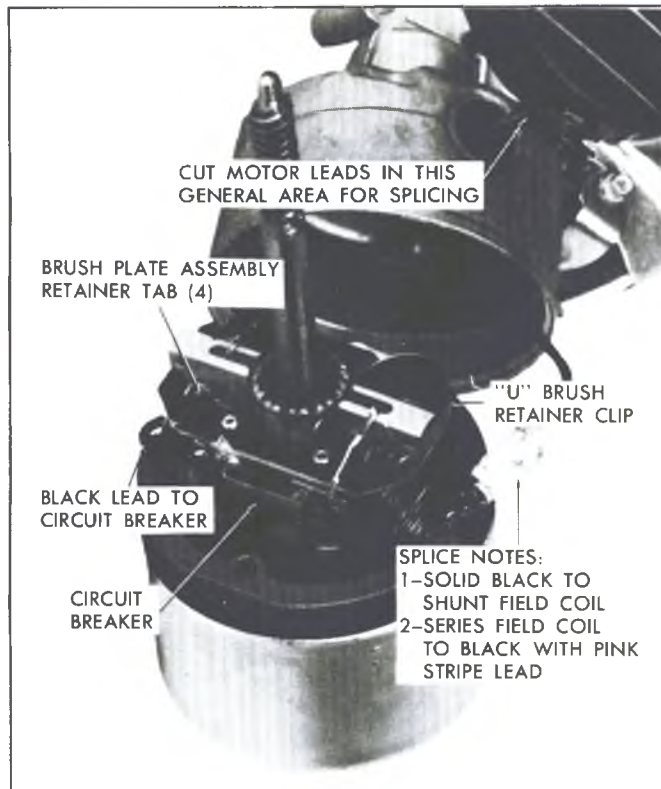
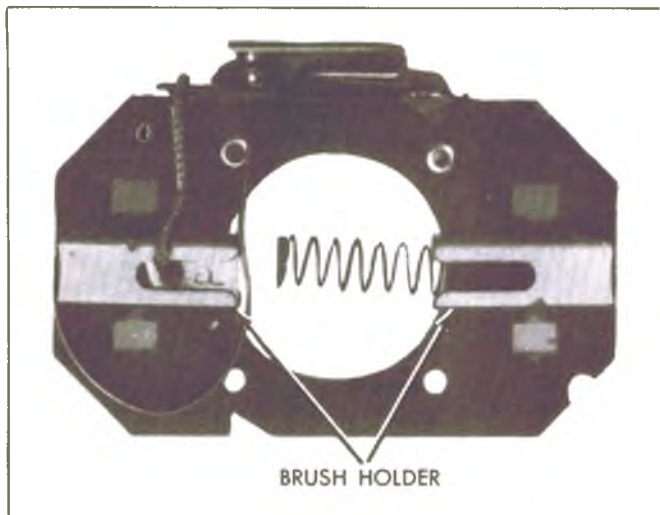

Fig. 30--Circuit Breaker
Fig. 33-Brush Plate Assembly
4. Unsolder the black cotton-covered lead from circuit breaker (fig. 30).
5. Straighten out the four tabs that secure the brush plate to the field coil retainers (fig. 30).
6. Install "U" shaped brush retainer clip over brush holder that has brush lead attached to circuit breaker (fig. 30).
stripe leads in a location convenient for splicing—preferably near the wiper terminal board. Refer to Figure 30 for splicing location.
5. Position the partially assembled brush plate (fig. 33) over the armature shaft far enough to allow assembly of the remaining brush in its brush holder, then position the brush plate on the mounting tabs in the position shown in Figure 30.
NOTE: Circuit breaker should be opposite field cross over splice connections (Figure 30).
7. Remove brush retainer clips and resolder black cotton covered lead to circuit breaker (fig. 30).